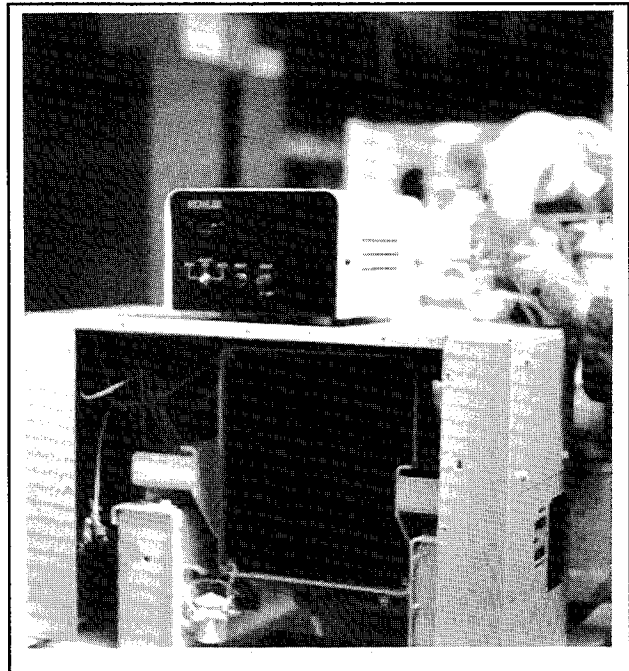

Figure 8-3. Removing Controller Cover
4. Remove four mounting screws securing controller cover and remove cover. See Figure 8-3.